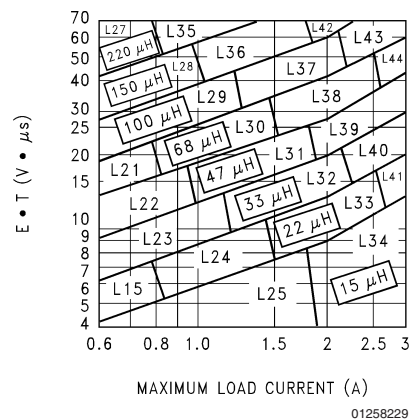

FIGURE 7. LM2599-ADJ
B. Use the $E \cdot T$ value from the previous formula and match it with the $E \cdot T$ number on the vertical axis of the Inductor Value Selection Guide shown in *Figure 7*.
D. From the inductor value selection guide shown in *Figure 7*, the inductance region intersected by the 34 ($V \cdot \mu s$) horizontal line and the 3A vertical line is 47 μH , and the inductor code is L39.